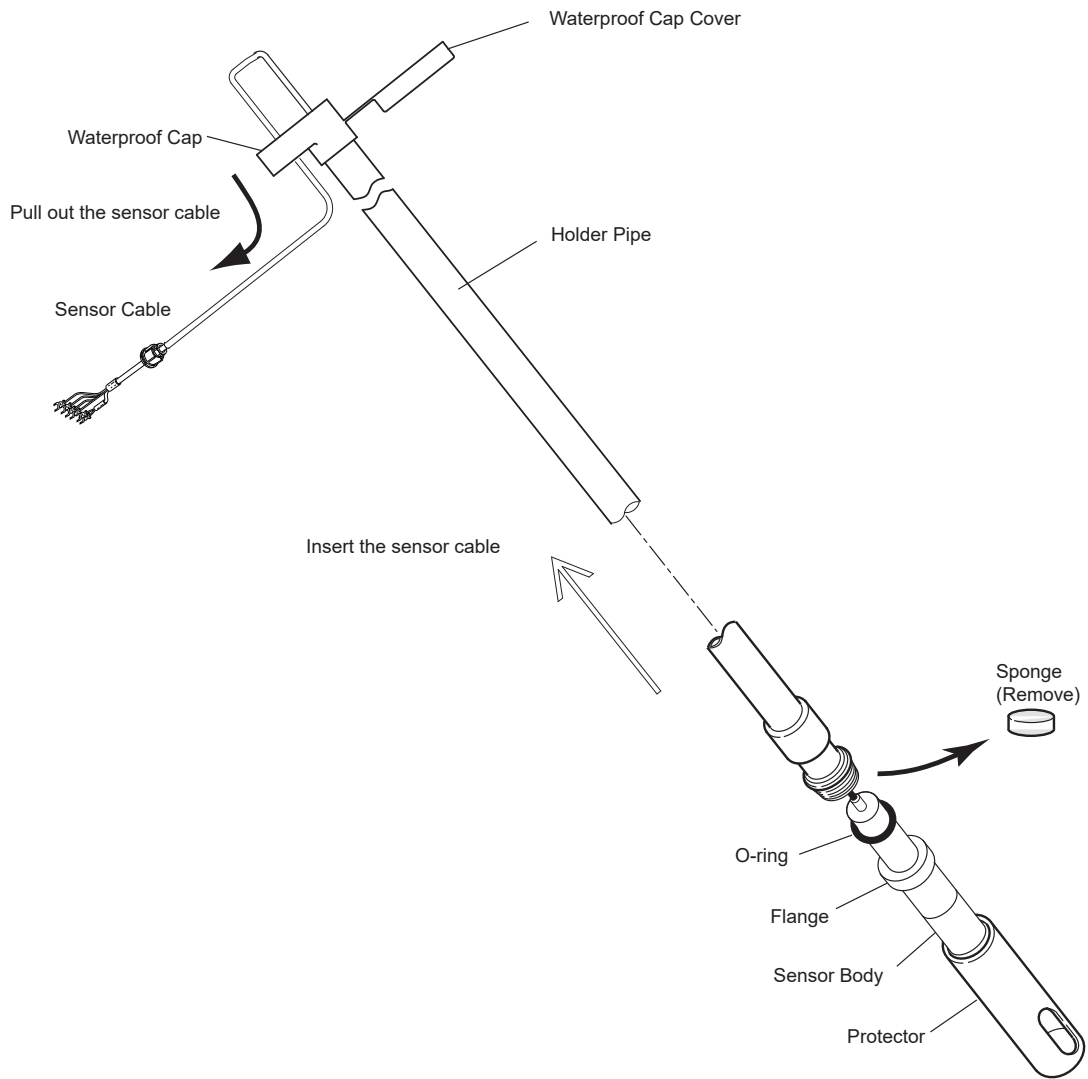

Figure 2.7 Assembling into the sensor holder
- (2) Pass the cable and KCl solution supply tube through the sensor holder as follows:
- First, as shown in Figure 2.7, remove the protector screwed into the tip of the sensor holder.